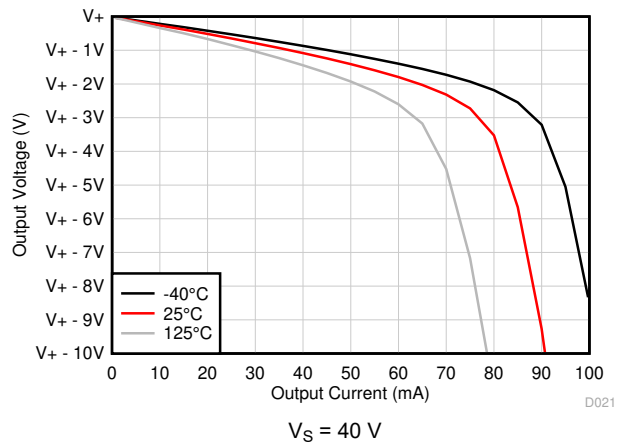

Figure 6-12. Output Voltage Swing vs Output Current (Sourcing)
- (1) Specified by characterization only.
- (2) At high supply voltage, placing the TLV936x-Q1 in a sudden short to mid-supply or ground will lead to rapid thermal shutdown. Output current greater than I_{SC} can be achieved if rapid thermal shutdown is avoided as per Figure 6-12.